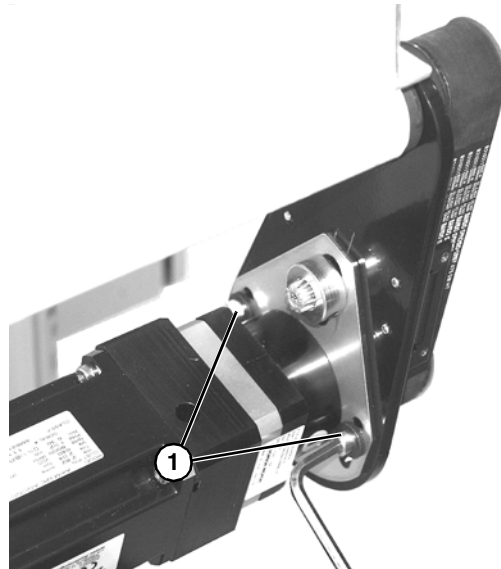

Figure 50
2. Loosen two M6 screws (**Figure 50, item 1**) to loosen belt position.